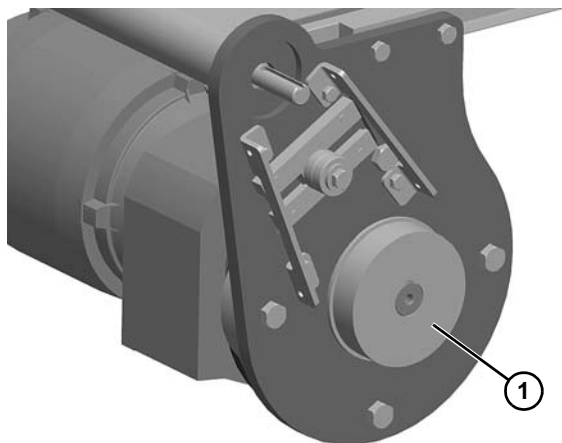

Figure 21
5. Loosen set screw on drive pulley (**Figure 21, item 1**). Remove pulley.